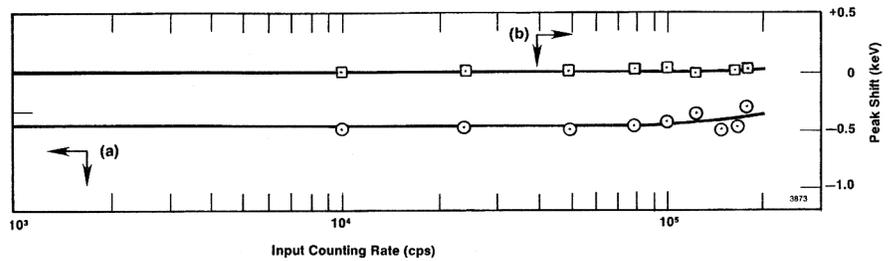

Fig. 2. (a) Resolution and (b) Peak Position Stability as a Function of Counting Rate. See specifications for spectrum broadening and spectrum shift.
To minimize spectrum distortion at medium and high counting rates (Fig. 2), the unipolar output incorporates a high-performance, gated, baseline restorer with several levels of automation. Automatic positive and negative noise discriminators ensure that the baseline restorer operates only on the true baseline between pulses in spite of changes in the noise level. No operator adjustment of the baseline restorer is needed when changes are made in the gain, the shaping time constant, or the detector characteristics. Negative overload recovery from the reset pulses generated by transistor-reset preamplifiers and pulsed optical feedback preamplifiers is also handled automatically. A monitor circuit gates off the baseline restorer and provides a reject signal for a multichannel analyzer until the baseline has safely recovered from the overload.
**SPECTRUM BROADENING1 (Fig. 2)** Typically  $<8\%$  broadening of the FWHM for counting rates up to 100,000 counts/s, and  $<15\%$  broadening for counting rates up to 200,000 counts/s. Measured on the 1.33-MeV gamma-ray line from a  $^{60}\text{Co}$  radioactive source under the following conditions: 10% efficiency ORTEC GAMMA-X PLUS detector, 8.5-V amplitude for the 1.33-MeV gamma ray on the unipolar output.
**SPECTRUM SHIFT1 (Fig. 2)** Peak position typically shifts  $<\pm 0.018\%$  for counting rates up to 100,000 counts/s, and  $<\pm 0.05\%$  for counting rates up to 200,000 counts/s. Measured on the 1.33-MeV line under conditions specified for SPECTRUM BROADENING.